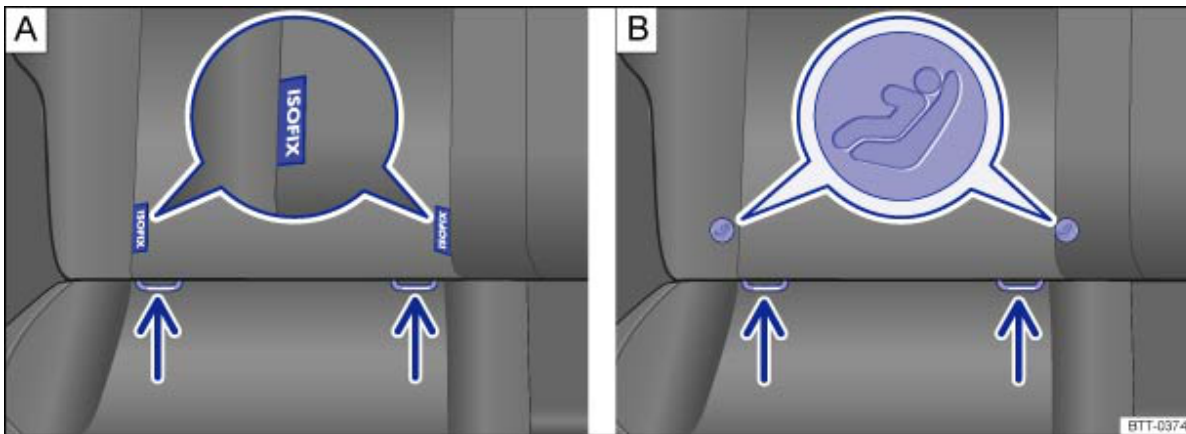

Fig. 78 On vehicle seat: different markings identifying the lower anchoring points for child seats
- Insert the child seat into the retaining rings → Fig. 78 in the direction of the arrow. The child seat must audibly click securely into place.
- Position the child seat on the seat cushion and attach the hooks from the attachment belts onto the retaining rings → Fig. 78.